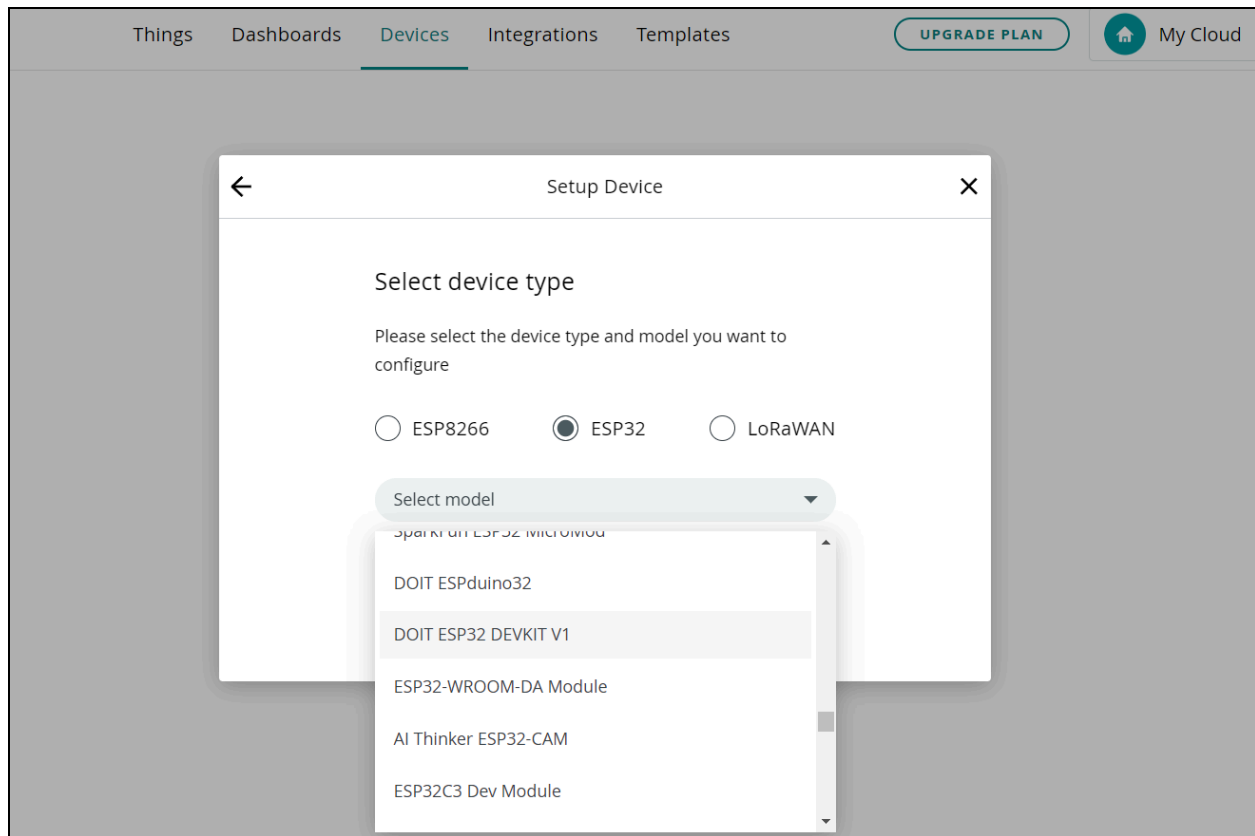

Fig. 8: Selecting Board
4. Then, Choose "ESP32" from the drop-down menu for the board selection. Then, Select the model " DOIT ESP32 DEVKIT V1" as shown in Fig. 8.